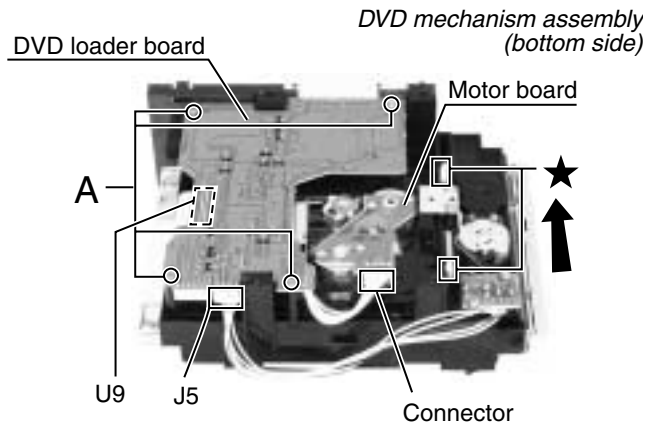

Fig.2
■ How to eject the DVD tray manually (see fig.2)